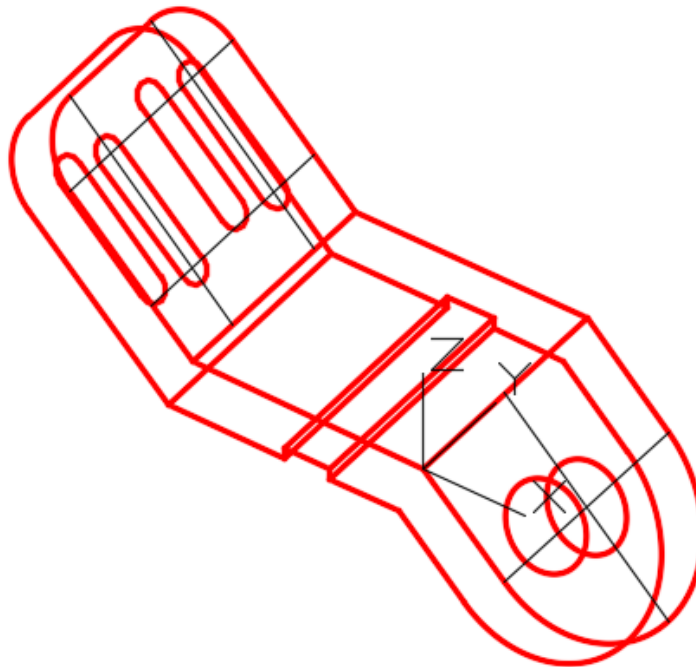

Figure Step 15
Step 15 Using the 3 Point method, locate the UCS to the top plane. (Figure Step 15)